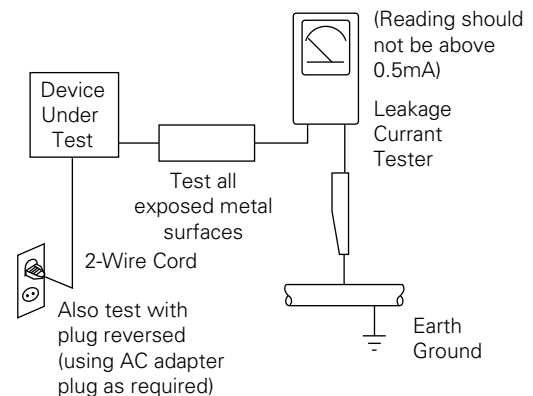

Fig. 1 AC Leakage Test
4. Leakage Current Hot Check (See Fig. 1) :